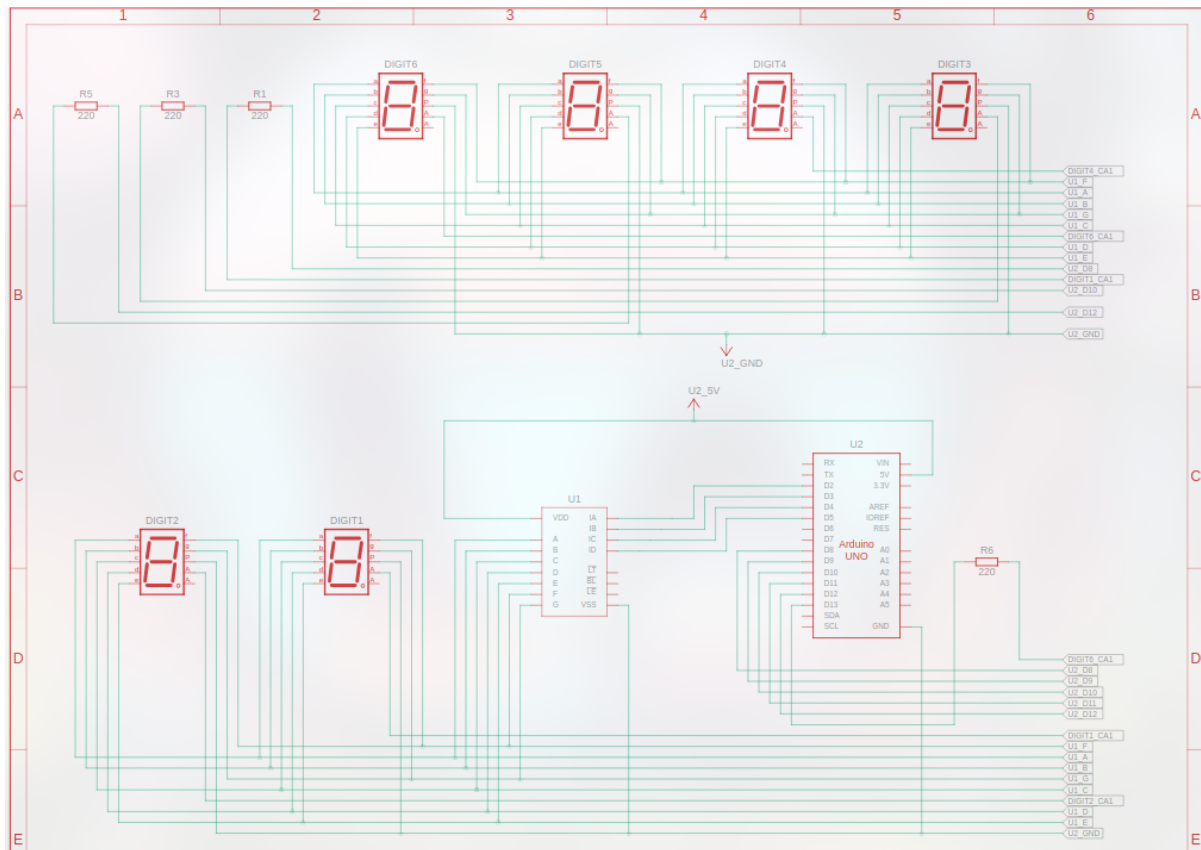

Figure 2: Schematic of Circuit.
- Decrease requirement of multiple decoders, by intelligently connecting the circuit as shown in the schematic Figure 2.